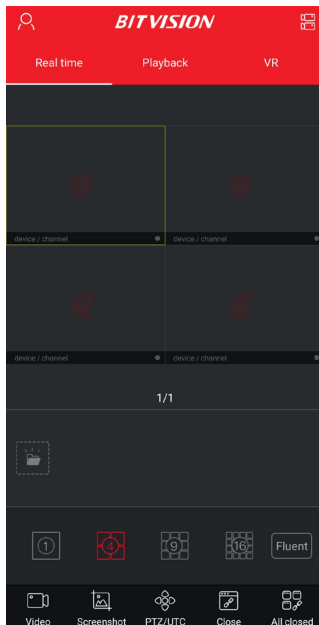

Fig.18
- BitVision is available for free in the Google Play and App Store. After starting the application, the main screen will be displayed (Fig. 18).